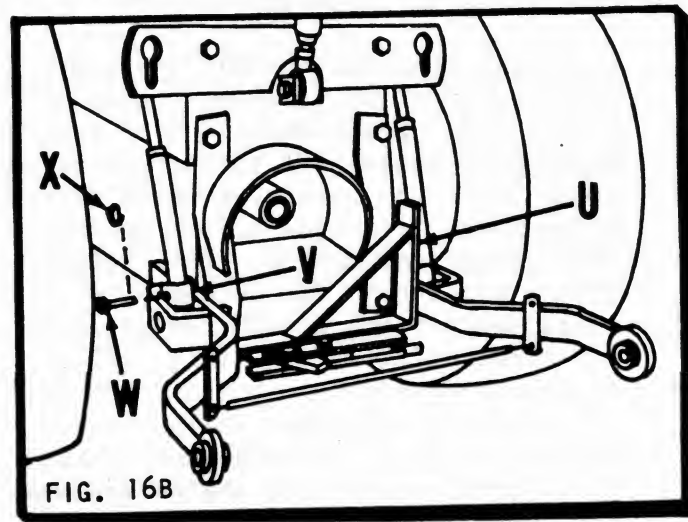

FIG. 16B
3. For Cub Cadet tractor assemble anti-sway bracket (U) into tractor drawbar behind lift cable anchor with vertical part of anti-sway bracket between right hand tractor three point hitch arm and right side of tractor frame. Place stabilizer bracket (V) around bottom of lift link on left hand tractor three point hitch arm. Secure stabilizer bracket to lift link with clevis pin (W) and slip ring (X). (Fig. 16B)